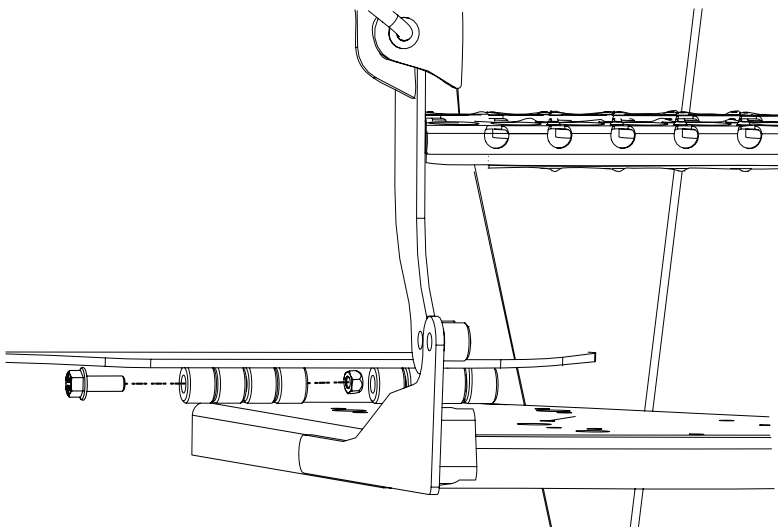

Figure 5: Install the (2) bolts and (2) nuts to secure the new platform to the rear pedestal side. Only one side shown.
7. Install the new (2) bolts and (2) nuts to secure the platform to the rear pedestal (see Figure 5 - only one side shown for illustrative purposes).